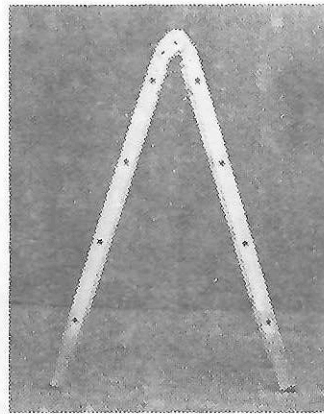

Figure C-2
2. Open the inner ladder assembly to the A-frame position until both hinges lock. This is the first of two trestles needed for the scaffolding function (FIGURE C-2).